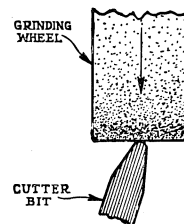
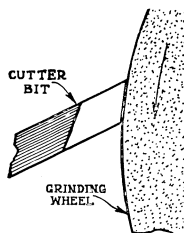
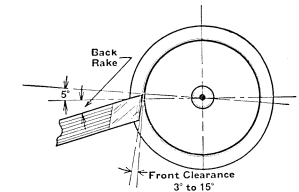

Fig. 13
Fig. 14
Fig. 21. Correct front clearance and back rake of cutter bit.
Fig. 13—Grind the radius or rounding on the end of the cutter bit. A small radius (approximately  $\frac{1}{32}$ " ) is preferable as a large radius may cause chatter. Hold the cutter bit lightly against the side of the wheel and turn from side to side to produce the desired radius. Be careful to hold the cutter bit at the correct angle to obtain the proper front clearance, as shown in Fig. 14 and also Fig. 21 on page 7.
Fig. 14—Hold the cutter bit at an angle as shown while grinding the radius on the end of the cutter bit in order to form the required front clearance. See Fig. 21 on page 7.
**Front Clearance**—The front clearance should be from  $3^\circ$  to  $15^\circ$ , depending on the nature of the work and height of the cutter bit, and is ground on the end of the cutter bit to permit the cutting edge to cut freely as it is fed to the work. (See Fig. 21.)
**Back Rake**—The back rake is ground on the top of the cutter bit to facilitate free cutting. (See Fig. 21.)